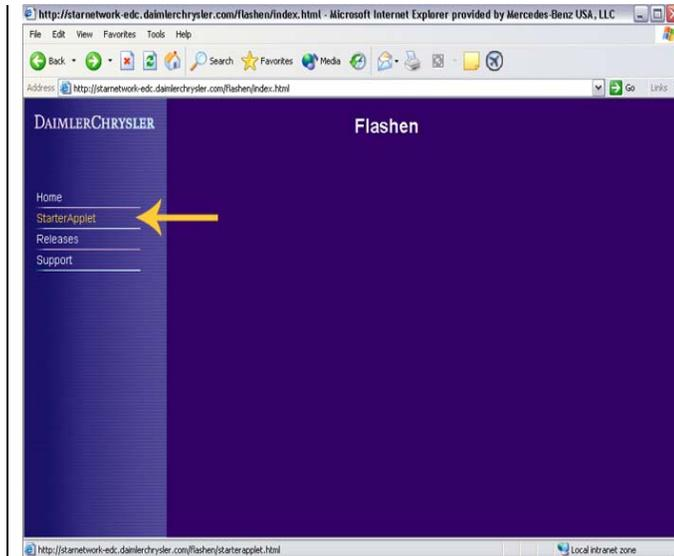

Figure 1
1. Download the SD flash online program from the DCAG flashen web site: Type in the following URL into your internet browser address box (Figure 1) and save as a favorite: <http://starnetwork-edc.daimlerchrysler.com/flashen>
Or follow the NetStar link 'SCN Coding' found under the 'Service' Tab (Flashen home page will open) Select <starter applet> (Figure 1) to begin installation.